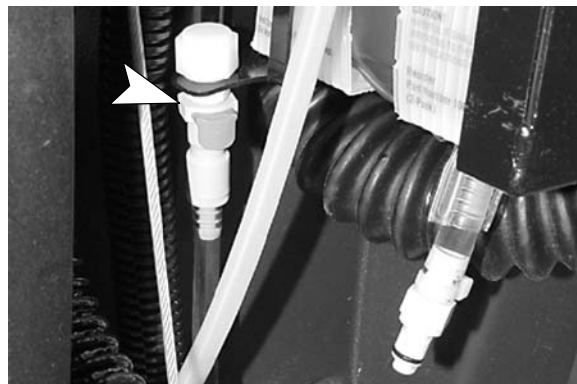

FIG. 12
- Make sure to connect the supply hose onto the hose storing plug when not in use (Figure 12). This will prevent the FaST solution system from drying out and clogging the supply hose.